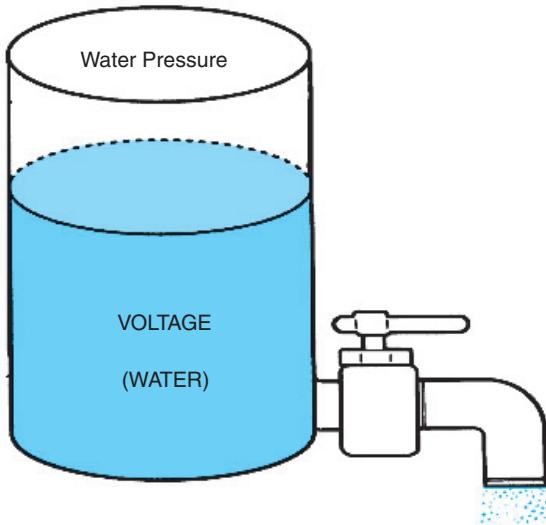
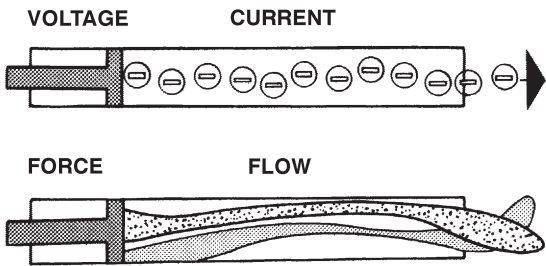

Figure 3-2. Voltage and water pressure.
Figure 3-3. Voltage pushes current flow like force pushes water flow.
We have said that a number of electrons gathered in one place effect an electrical charge. We call this charge an electrical potential or "voltage." **Voltage** is measured in volts (V). Since it is used to "move electrons," an externally applied electrical potential is sometimes called an "electromotive force" or EMF. Potential, voltage, and EMF all mean the same thing. You can think of voltage as the electrical "pressure" (Figure 3-2) that drives electron flow or current, similar to water pressure contained in a tank. When voltage is applied to a disconnected length of wire (open circuit), there is no sustained movement of electrons. No current flows in the wire, because current flows only when there is a difference in potential (Figure 3-3). Check the voltage with a meter, and you will find that it is the same at both ends of the wire. (See the section on "DMM Operating Principles" in Chapter 3 of the *Shop Manual*.)